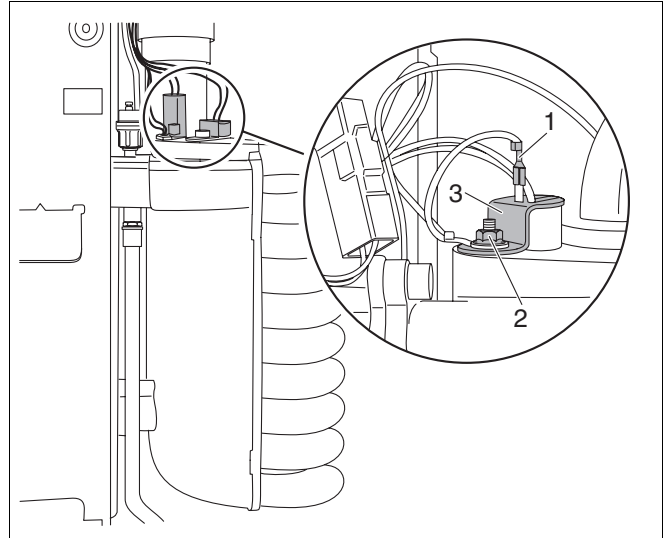

Fig. 55 Replacing the hot surface ingitor
- Remove the earth (ground) lead from the hot surface ingitor (fig. 55, item 1).
- Loosen nut on clamp used to secure earth (ground) lead (fig. 55, item 2).
- Detach retaining plate of hot surface ingitor (fig. 55, item 3) and remove hot surface ingitor.